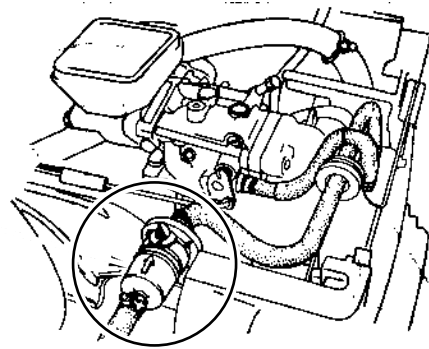

Figure 15. Honda Fuel Filter
1. Replace the engine fuel filter (Figure 15) every 200 hours.